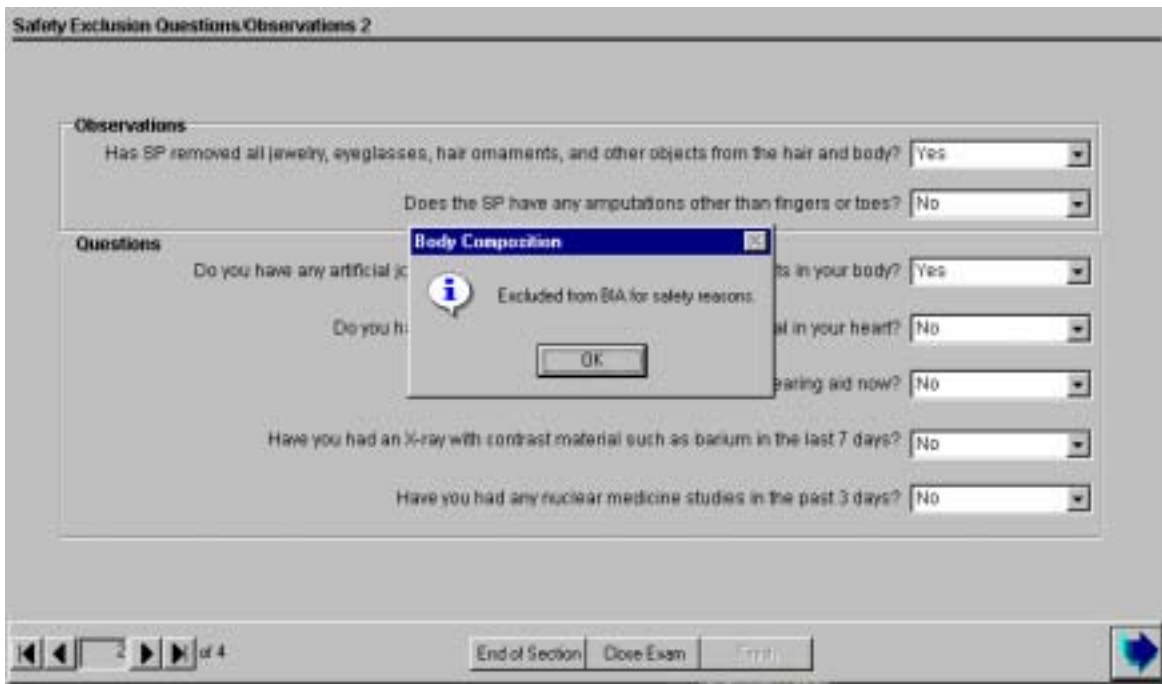

Figure 4-17. Safety/exclusion questions (artificial joints)
- Continue with the remaining questions. When the Next button is pressed, a message will be displayed: ‘Excluded from BIA for safety reasons.’ Click OK to this message. See Figure 4-17.